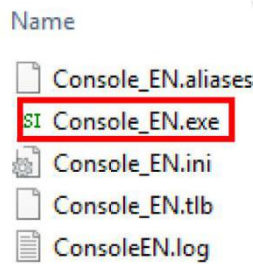
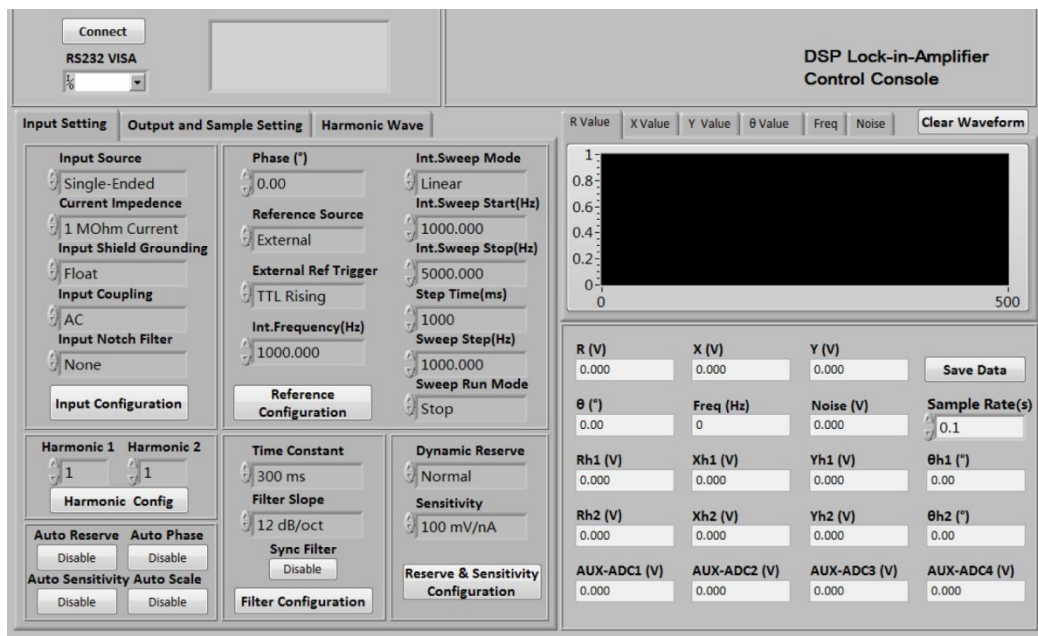

Fig.53 “SE1022_Console_EN” File
Fig.54 SE1022 Software Interface
- 2) Double click the file “SE1022_Console_EN.exe” in Fig.53 red box. If the installation is right, and then you will see the Fig.54.